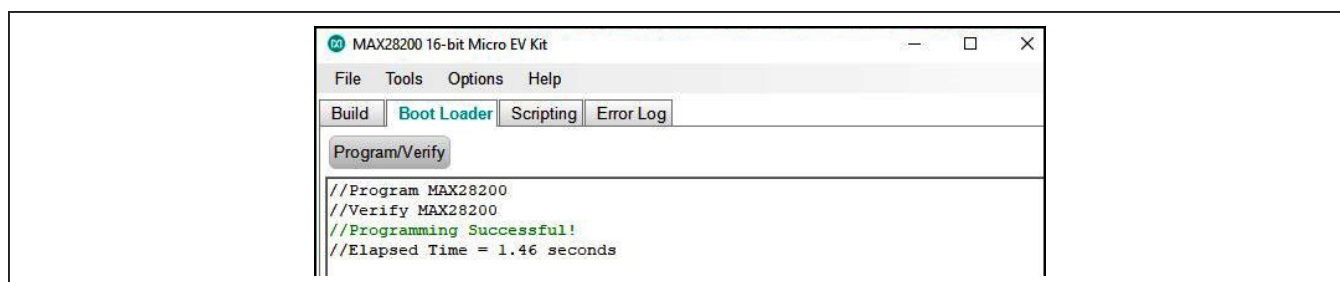

Figure 10. Device Successfully Programmed
- 6) If this operation was successful, you will see “//Programming Successful!” at the bottom of the log (Figure 10).